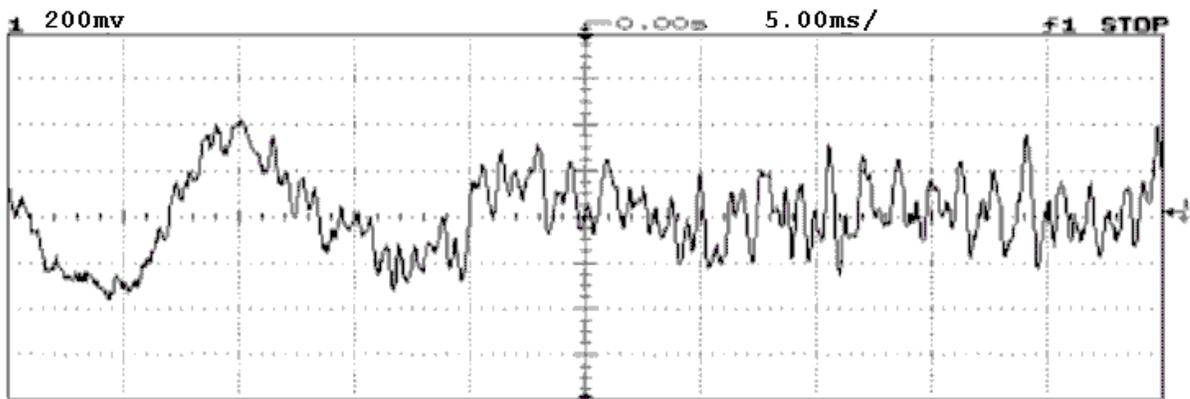

Figure 8.
*Test input signal:* The transmitter is a 555 timer circuit very similar to an astable multivibrator. The only difference is that instead of generating a regular string of pulses, it generates a string of pulses which vary in frequency in response to the input signal at pin 5. It is best to use a square wave to debug this circuit. A typical audio signal is pictured in Figure 8. Note that the signal below has several frequencies. There are about 10 cycles of a typical wave in a 5ms division. This corresponds to a frequency of about 2kHz. Also note that the amplitude reaches a maximum of about 800mVp-p. Our circuit works best with a slightly larger amplitude, so set the function generator to 1.2Vp-p, square wave at 1.5kHz.